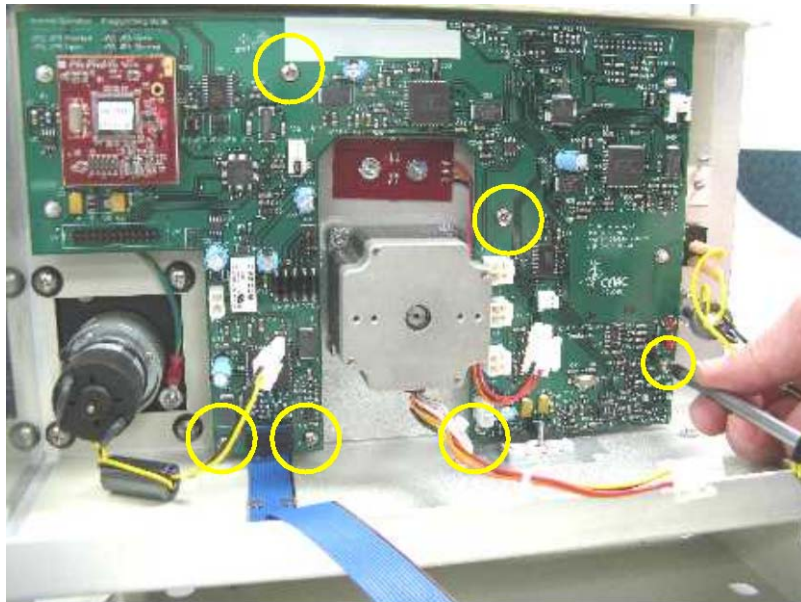

Figure 1-34 Removing the six screws holding the board in place (ASX-260).
8. Remove the 6 Phillips head screws holding the board in place (Figure 1-34). Unclasp the blue ribbon cable from the bottom clamp.